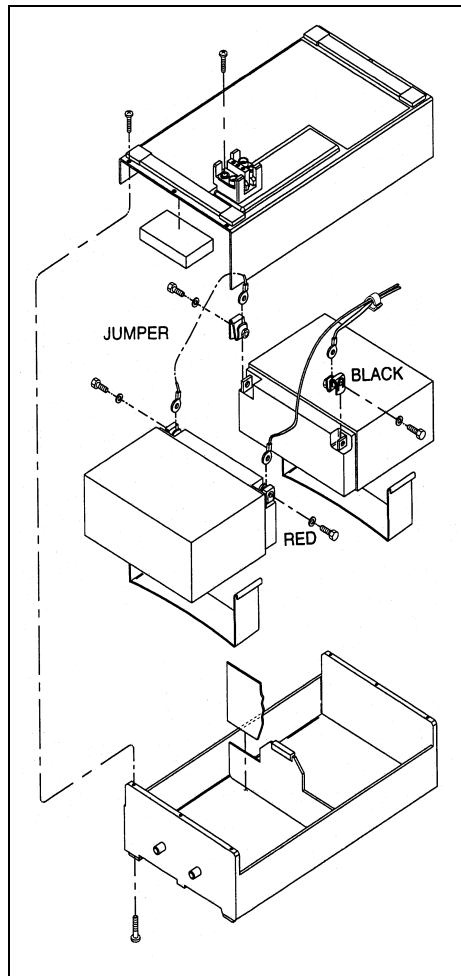

FIGURE 5-5 Battery Assembly, Exploded Isometric View
3. (See Figure 5-5) Remove the top cover. Remove the jumper and the cable assembly from the battery terminals, being careful not to contact adjacent terminals.
This battery assembly is used when the **CS300 is ordered with a docking station. Refer to FIGURE 5-5 for an illustration of this battery assembly.*